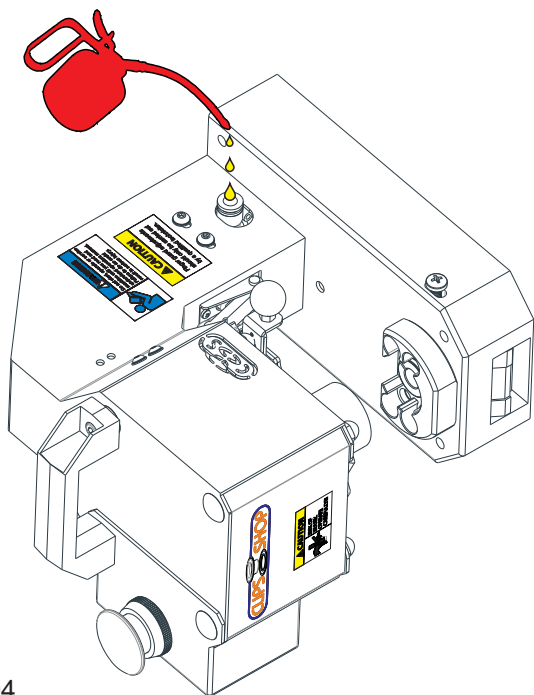

fig. 104
Manually grease the main shaft①, finger guard mechanism shaft② and rails③ with a drip feed lubricator as shown in (fig.104).